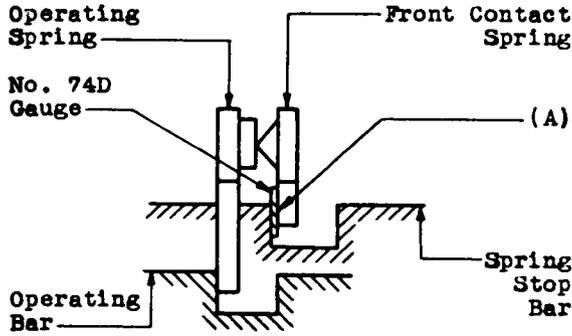

Fig. 22 - Contact Follow -
(a) For Make and Transfer Spring Combinations - Figs. 22 (A) and 23 (A):